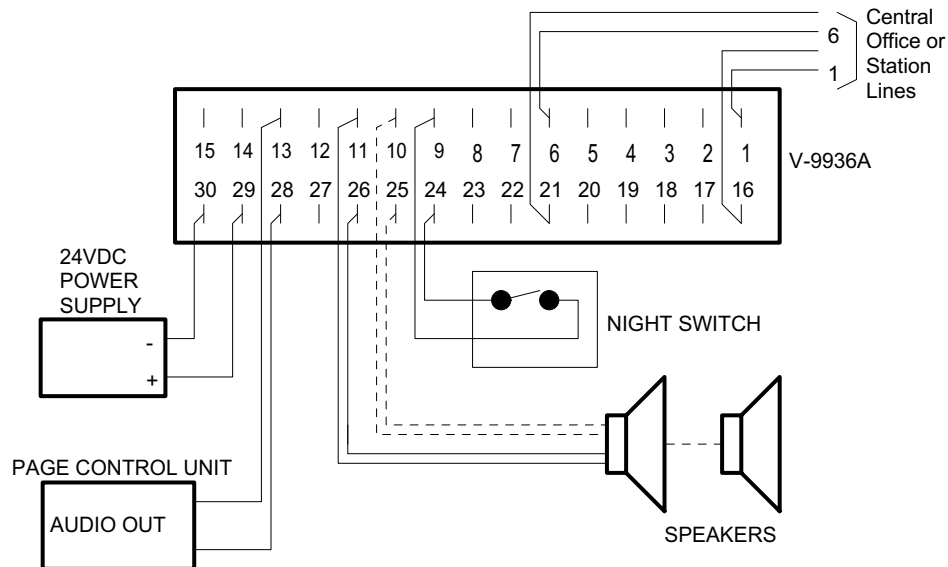

FIGURE 4 - RINGING OVER PAGING CONNECTIONS
- Proceed to Figure 4 for Ringing Over Paging Connections.